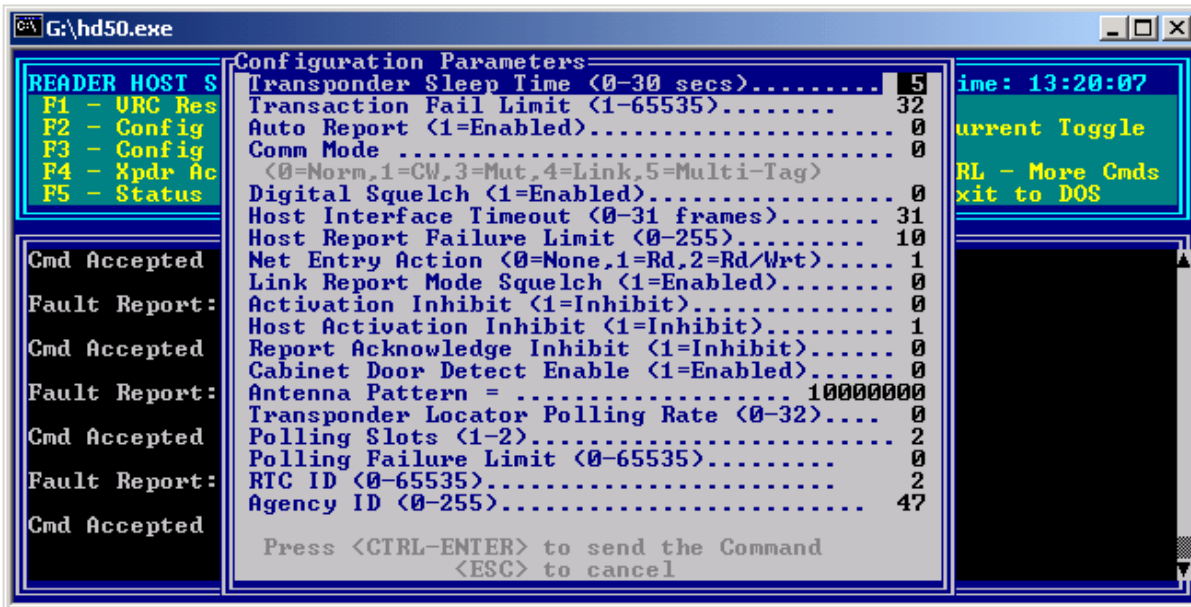

Figure 6-HD 5.0: Configuration Parameter Menu
- To change the Reader's communication mode, press <F2> from within HD. This will bring up HD's Configuration Parameters menu shown in Figure 6.
- To change the Reader's antenna pattern, press <F2> from within HD. This will bring up HD's Configuration Parameters menu shown in Figure 6.